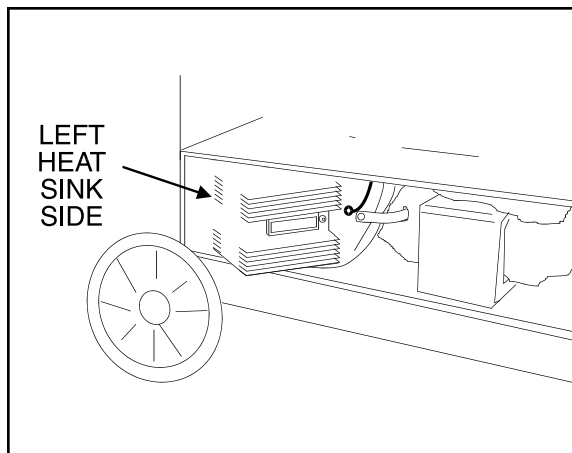

FIGURE F.16 - Heat Sink Lead Disconnection
6. Pivot the SCR Assembly counter-clockwise to provide access to the right side heat sink. See Figure F.16.